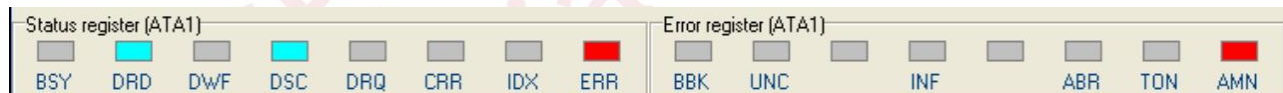

Fig. 2.11.
After power-on the HDD starts the spindle motor, produces 3 loud clicks with the heads stack and stops the motor. Status registers display an error (Fig. 2.11).
- ◆ Heads map. Mismatch of the maps of drive heads stops initialization after a HDD powered on. When the power is switched on, the firmware attempts drive start and then stops the motor. Registers display the drive status (e.g., Fig. 2.11). The same situation occurs when the service area has more associated heads than the heads map in ROM. You can avoid such situation if the heads maps are matching or if the donor drive certainly has more heads than the one being restored.